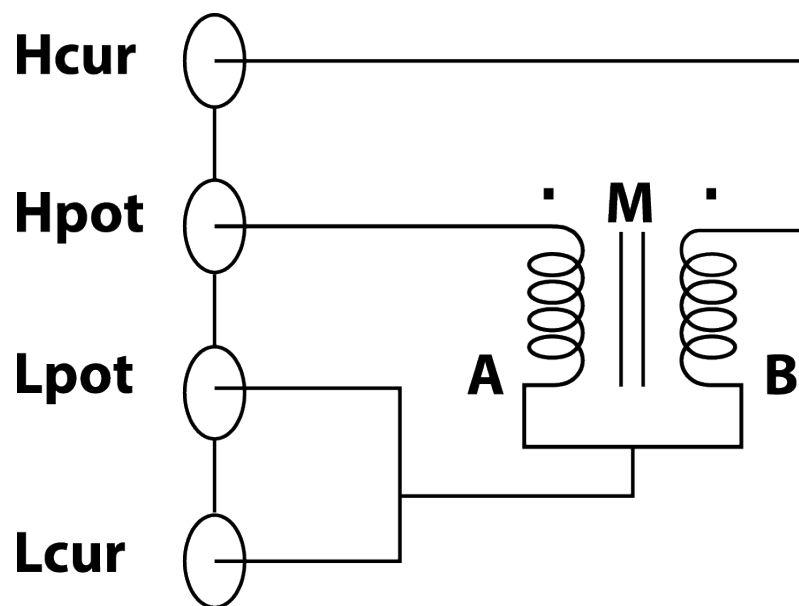

Figure 6 - Direct measurement method of mutual inductance
Mutual inductance (M) adopts a direct measurement method. After connecting the transformer according to Figure 6, mutual inductance can be measured when the secondary parameter is selected as M.